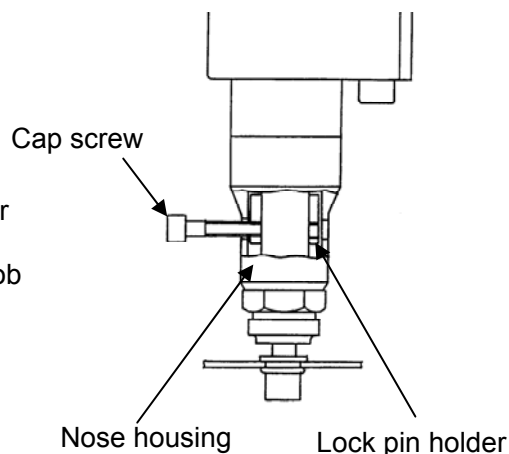

Figure 6-9
- b. Thread the M4 x20 Cap screw provided with the tool into the hole in the side of the nosehousing (Figure 6-9).